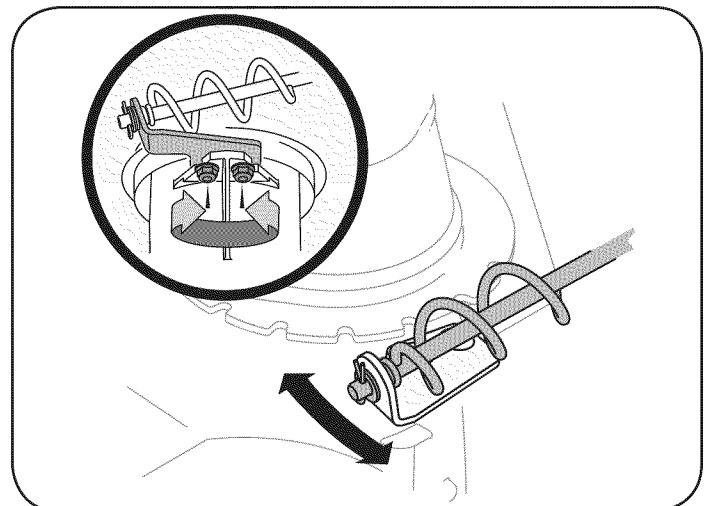

Figure 22
1. Loosen the two nuts which secure the chute bracket and reposition it slightly. See Figure 22.